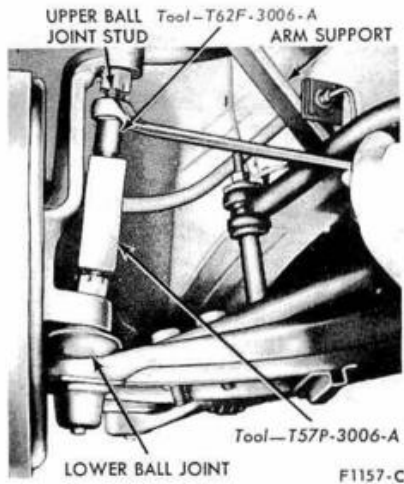

FIG. 5—Loosening Ball Joint Studs in Spindle—Typical
4. Position the ball joint remover tool as shown in Fig. 5. The tool should seat firmly against the ends of both studs, and not against the lower stud nut. It may be necessary to remove the lower ball joint cotter pin if it prevents the tool from seating on the lower stud.